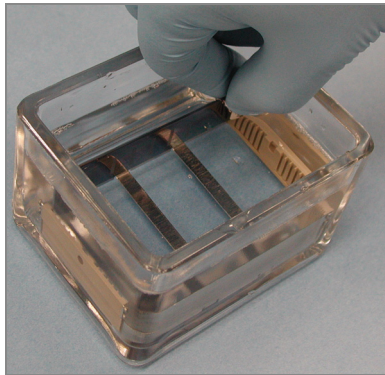

Figure 53 Placing BeadChips in Wash Dish Containing PB1
5. Immediately and carefully slide each BeadChip into the wash rack one at a time, making sure that the BeadChip is completely submerged in the PB1 (Figure 53).